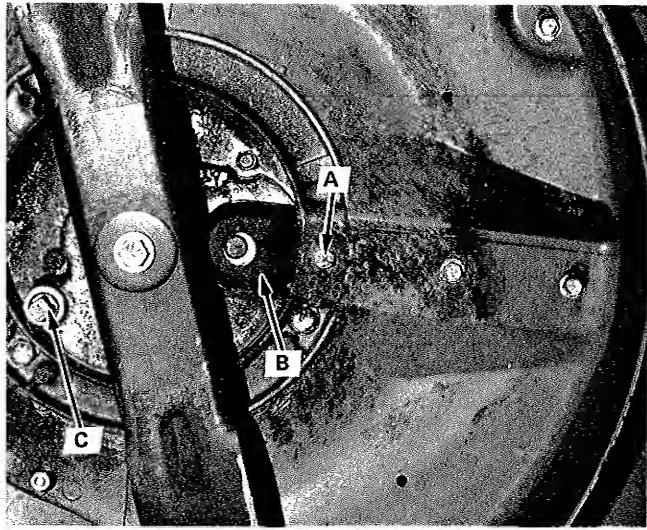

FIGURE 13 - BELT SHIELD
2. The oil may be drained thru oil drain (C, Figure 13) on bottom of engine by removing the plug. The engine must be level.
1. Lift mower up from the spark plug side as directed on decal. Remove capscrew (A, Figure 13) holding on the belt shield (B).